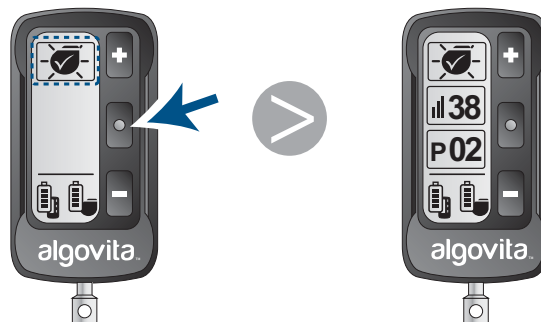

Figure 39. Confirming new setting
3. While the icon is blinking, press  (Figure 39) or wait 5 seconds to confirm the new setting.